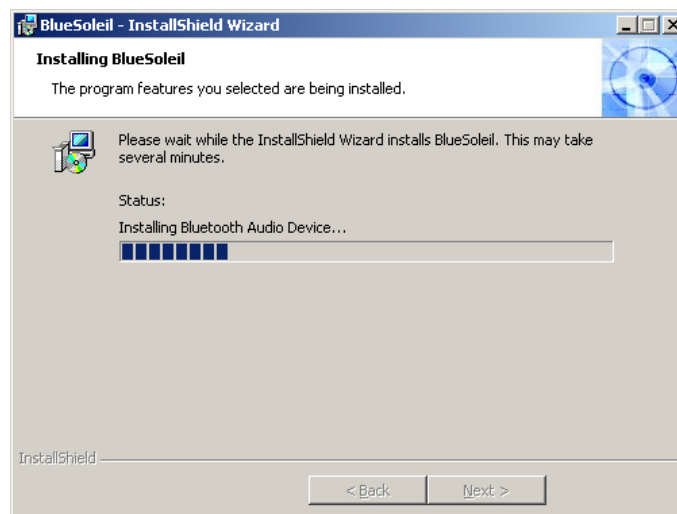

Figure 7-35: Installing BlueSoleil
Step 9: Click **INSTALL** to continue. The Installing BlueSoleil screen appears as the program is installed (**Figure 7-35**).